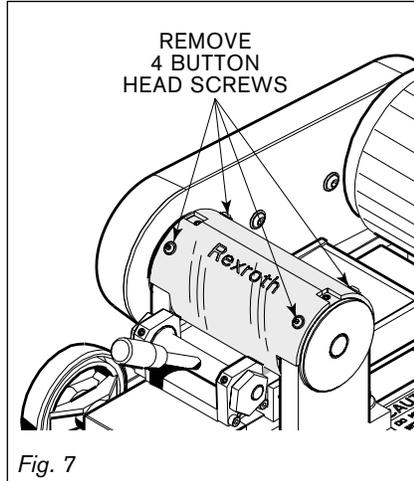

Fig. 7
2. Using a 2.5mm allen wrench, remove the 4 button head screws that secure the two grinding drum guards in place and remove the guards (Fig. 7).